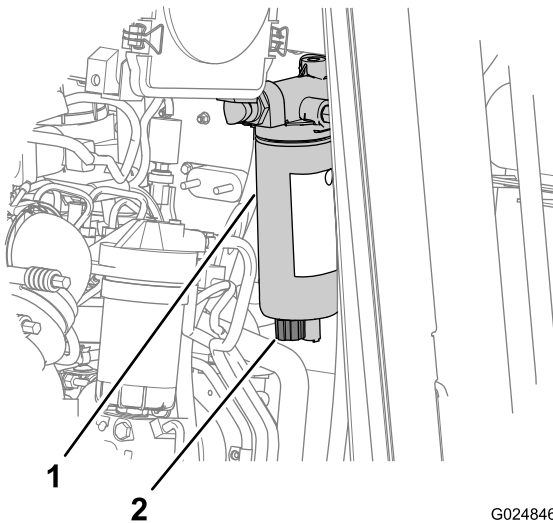

Figure 21
2. Place a drain container below the drain valve on the fuel-water separator (Figure 21).